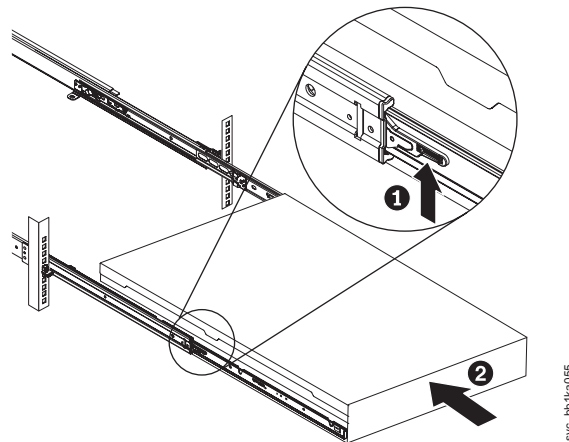

Figure 230. Raising the SAN Volume Controller 2145-CF8 locking levers of the slide rails of the rack
9. Lift the locking levers (**1** in Figure 230) on the slide rails and push the server **2** all the way into the rack until it clicks into place.